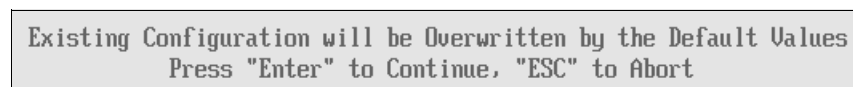

Figure 9-73 Message about overwriting the existing configuration
2. When prompted by the message "Existing configuration will be overwritten by the default values (Figure 9-73)", press Enter to confirm.